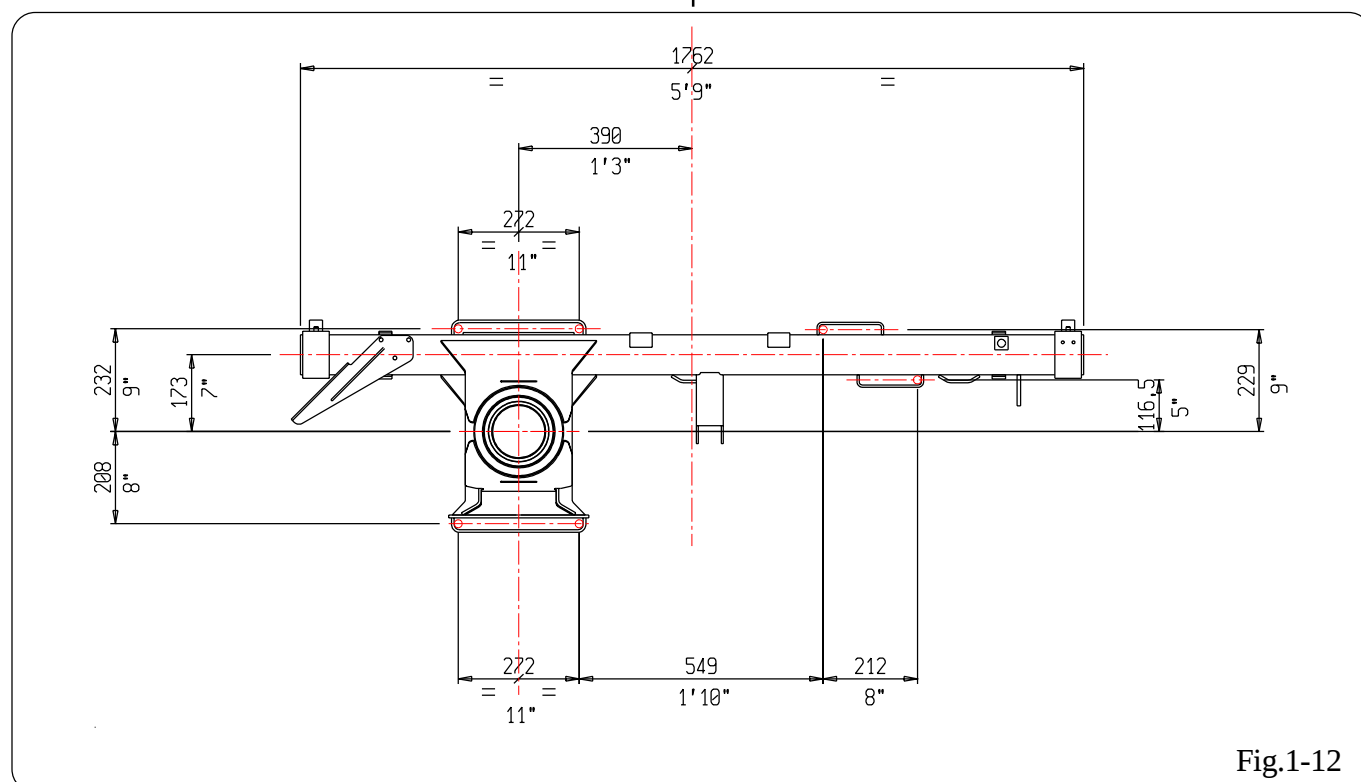

Fig.1-12
1.8.4 DIMENSIONI DI ANCORAGGIO SERIE 4 (Fig.1-12)
1.8.4 MOUNTING DIMENSIONS SERIE 4 (Fig. 1-12)